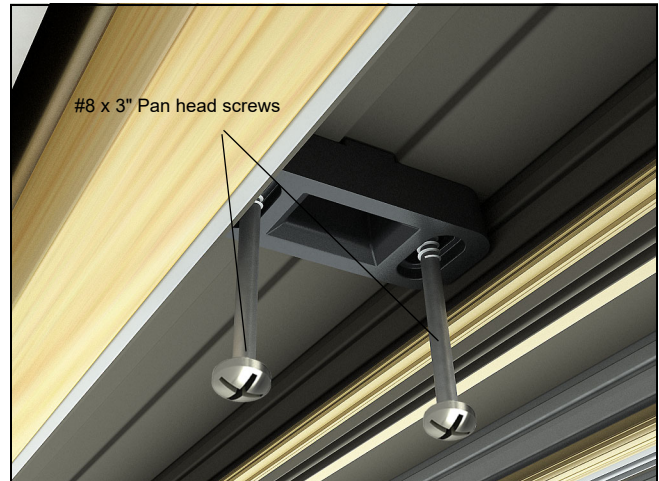

Figure 62
- Fasten the flush bolt strike through the pre-drilled holes using the #8 x 3" black installation screws, near the center of the head jamb on the interior track. Ensure there are adequate shims between the rough opening and the head jamb where the strike is located. See figure 62.